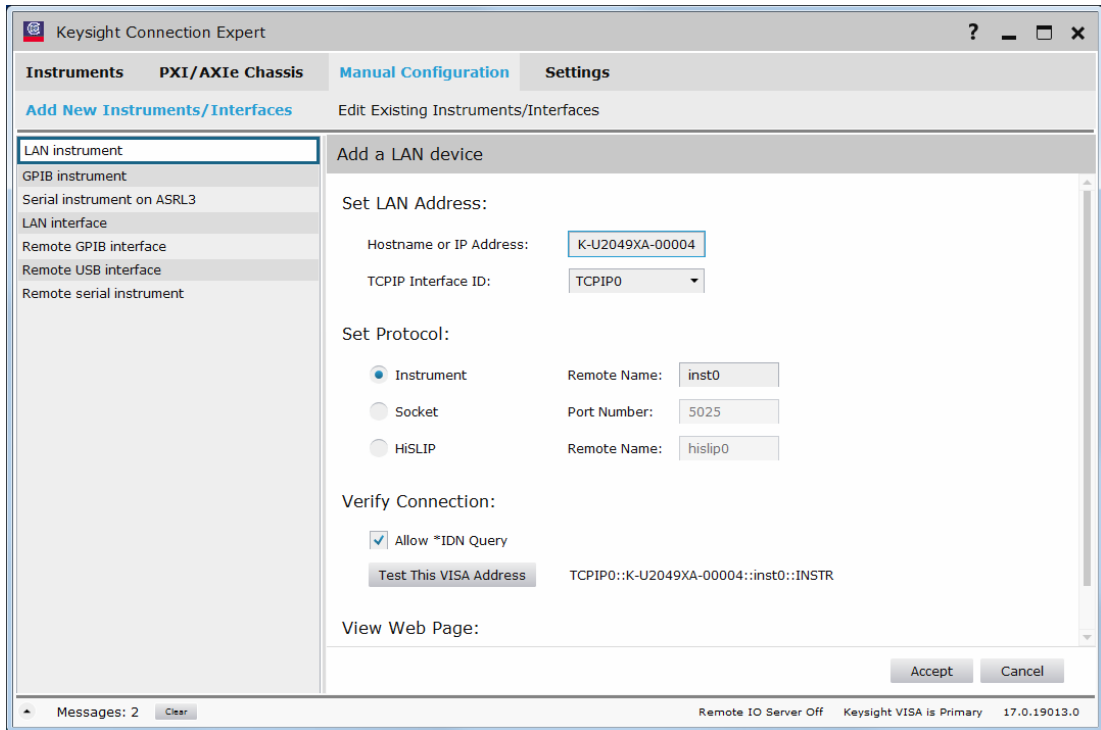

Figure 1-7 Add a LAN instrument in Keysight Connection Expert via host name
- 3 Launch the Keysight Connection Expert by selecting the IO icon (). Set the instrument host name (**Figure 1-7**). Every U2049XA has a default host name in the form of: